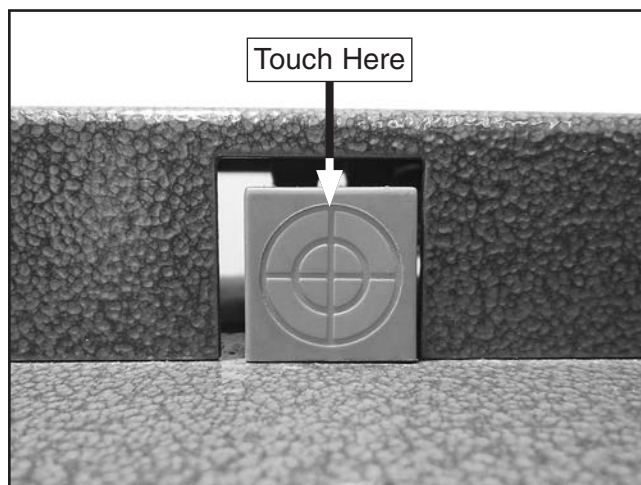

Figure 79. Proximity switch target.
- Touch each proximity switch target with a scrap piece of iron or steel (see **Figure 79**).